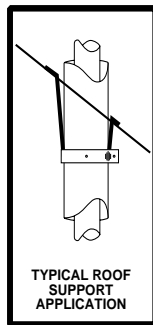

Fig. 35
7. Install roof support (Fig. 35) and roof flashing making sure upper flange of flashing is below the shingles. (Fig. 38)